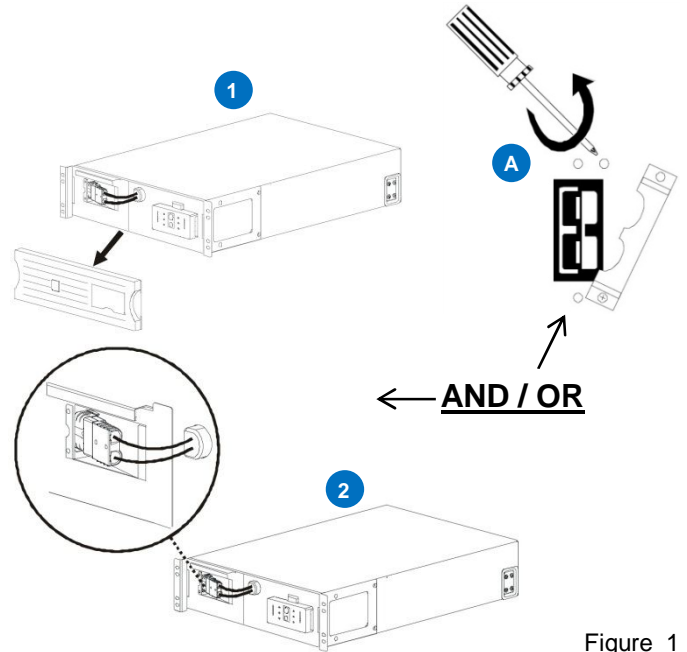

Figure 1
Connect the UPS's Internal Batteries (Figure 1):
NOTE: The Battery Disconnect/Connector may vary or be omitted on some models. Figure 1 illustrates some of the variations in connectors. Please follow the illustration which best resembles your UPS.
Procedure for Figure 1: (1, 2, 3)
Procedure for Figure 1: (A)
- 2.3 Install all external Battery Packs (if applicable). The External Battery Pack connector is located on the rear panel of the UPS, and is either BLUE/RED (48V) or GREY (24V). If the External Battery Pack Connector has a metal cover, remove the fastening screws and move the cover as in Figure 1.A. **2**